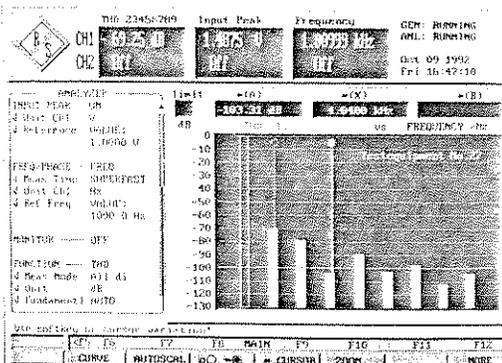

Fig. 1 Values obtained from harmonic distortion and intermodulation measurements can also be displayed as a histogram diagram
- Harmonic distortion measurements. All the harmonics, single harmonics or any combination of harmonics can be measured (Fig. 1).